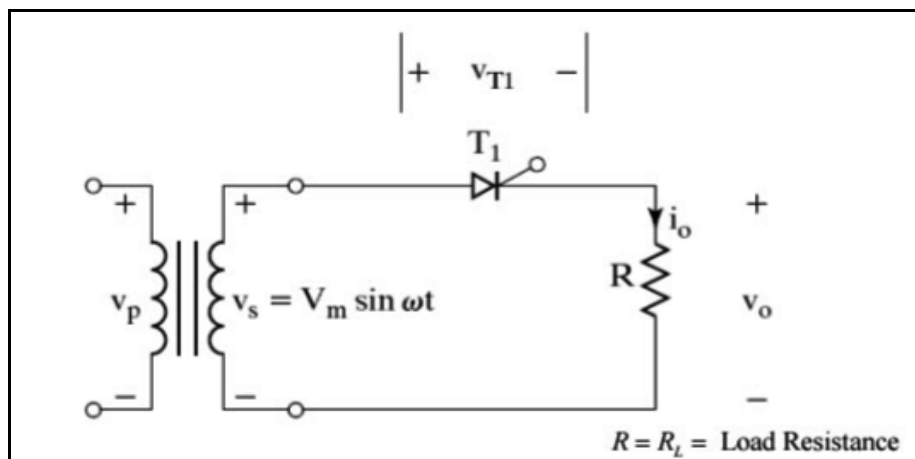

Fig. 7.1 Half wave controlled rectifier for R load
1. Make the circuit connection as per the circuit diagram shown in Fig. 7.1.